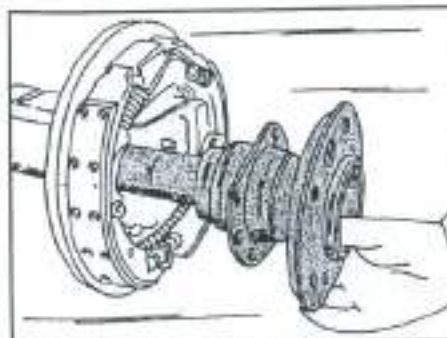

Fig. 5.5 - Fitting an axle drive shaft.
- Align the holes in the bearing cover with the holes in the brake backplate and the rear axle tube (Fig. 5.5) and fit and handtighten the bolts. The nuts are self-locking and must always be replaced. Tighten the nuts evenly across, until the bolt heads contact the bearing cover and the cover contacts the brake backplate. From this position tighten each nut by a further $\frac{1}{8}$ of a turn, until the correct tightening torque of 7.7 – 8.8 kgm (55 – 63.5 ft.lb.) has been obtained. Again the shaft flange must be rotated accordingly to insert a socket with a short extension.